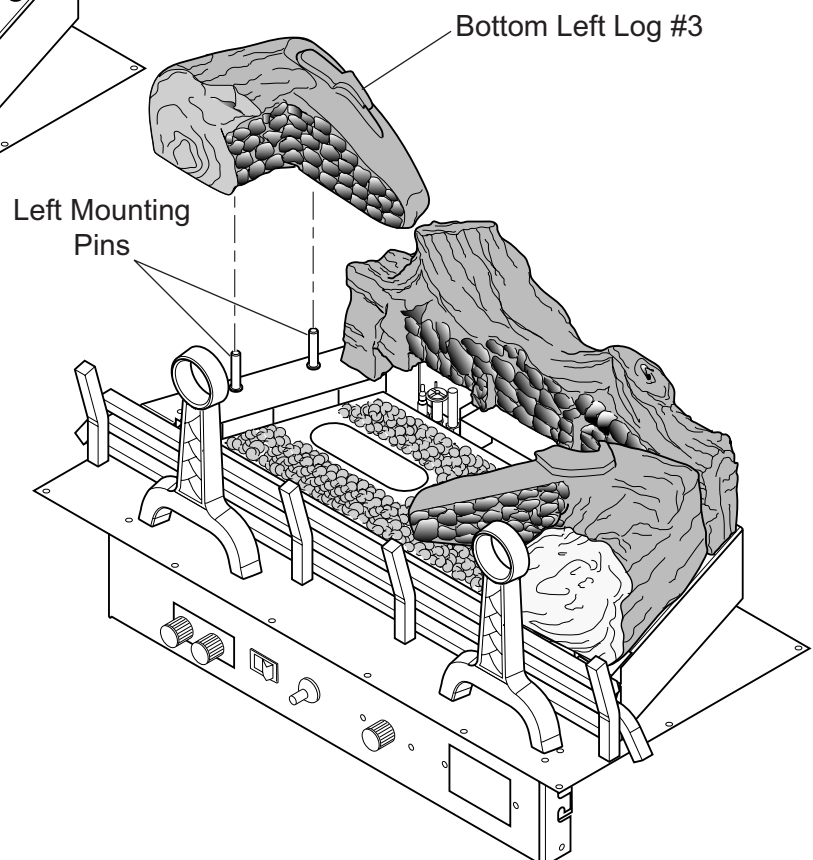

Figure 48 - Installing Bottom Left Log (#3)
3. Place bottom left log (#3) on grate. Log should rest firmly on two left mounting pins of plate. *See Figure 48.*